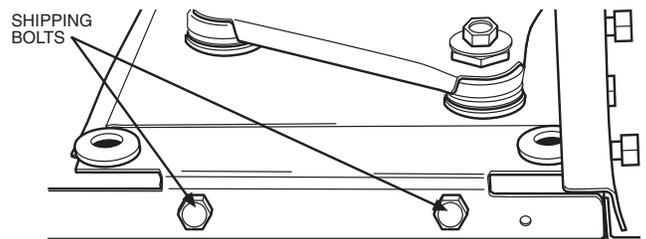

Fig. 15 — Remove 4 Shipping Bolts on Compressor Isolator Plate
2. Remove compressor isolation plate shipping bolts (4), as shown in Fig. 15.